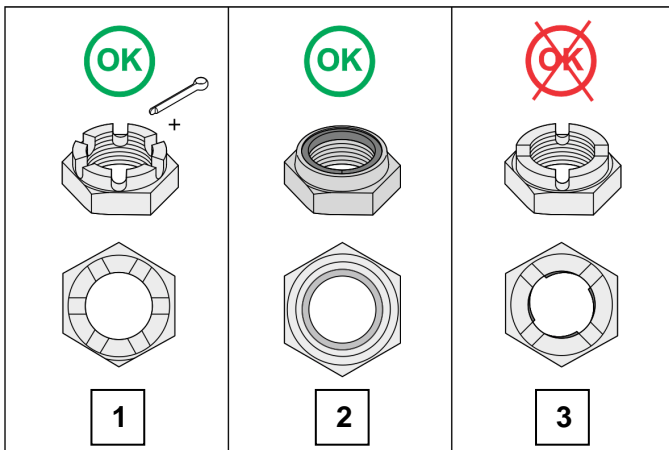

Figure 5: Nut types
- to use a metal self-locking castellated nut. The slots of such nut are pressed to the inside and will cut into the thread of the ball-joint pillar (see nut 3 in Figure 5). If nevertheless such nut is found during removal consider the steering linkage as single use. Additional, a metal self-locking castellated nut resembles a common castellated nut, which can create confusion at inspection services. The coach could be placed out of service due to the fact that no cotter pin is installed!